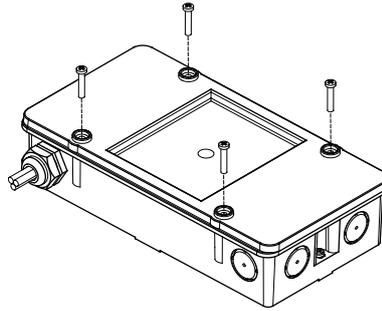

Fig. 6
1. Open the housing (Fig. 6).
5. Insert the seal and fix the lid additionally with four screws (Fig. 6). (only this way is IP65 protection guaranteed)